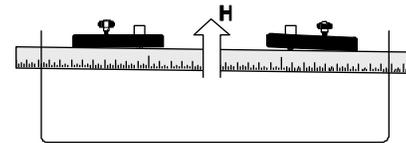
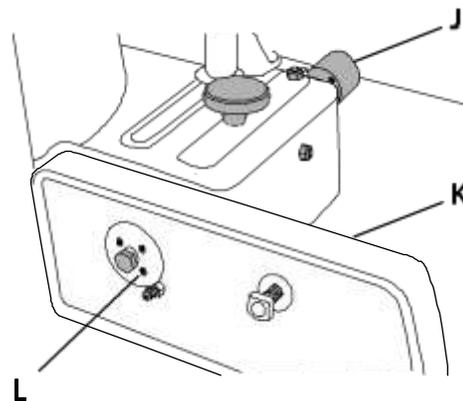

Fig. 5
Fig. 7
Adjustment is required if the fences appear skewed (Fig. 5). Continue with Coplanar Adjustment (following steps).
6. Remove both fences and place the straightedge against the infeed and outfeed fence castings (Fig. 5).
8. Maintain steady pressure of the straightedge against the fence castings (H, Fig. 5). At the same time, attempt to bring both fences into alignment as shown in Fig. 10. This is accomplished by alternately making incremental adjustments to four setscrews (L, Fig. 7) on the front face of the casting (K, Fig. 7) with a 2mm hex wrench, followed by repositioning the casting with the micro adjust dial (J, Fig.7) as required.
**Important :** It is recommended that the adjustment setscrews (K, Fig. 7) be rotated in 1/16th increments or less at a time.